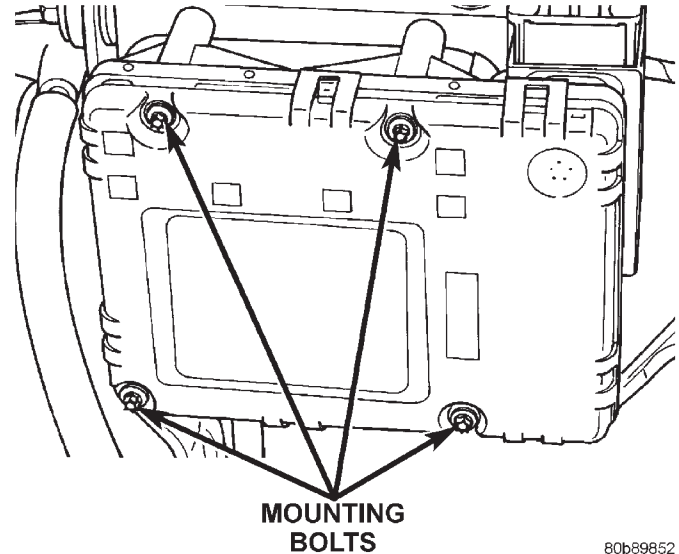

Fig. 5 CAB Mounting Bolts
- (4) Remove pump motor connector.
- (5) Remove CAB mounting bolts (Fig. 5) and remove the CAB from the HCU.